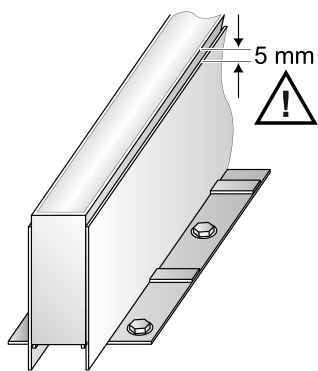

Figure 2: Installed luminaire
- The installed luminaire exceeds the upper edge of the frame by 5 mm (Figure 2). The upper edge of the floor after finishing must therefore also exceed the frame by 5 mm.
- Place the connecting cable (2) carefully in the groove of supporting strip (8).
- Insert the floor lamp (4) straight into the mounting frame.
- Press the luminaire down until it comes to rest on the supporting strip (8) and until the retaining springs (3) have engaged.